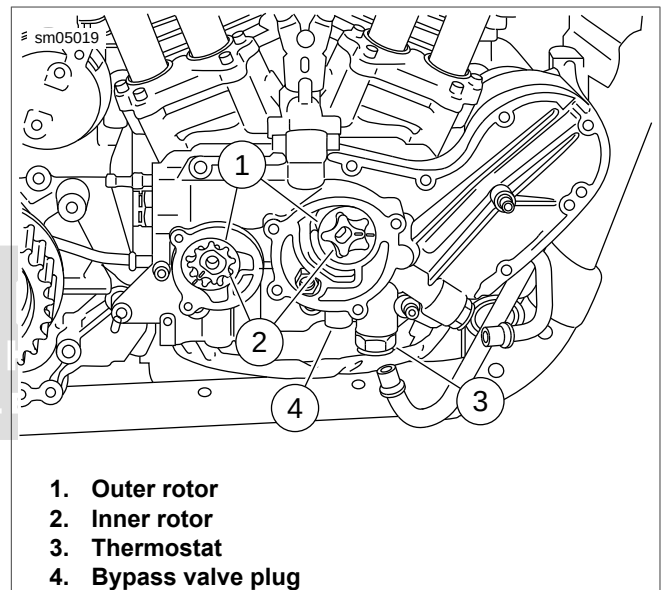

Figure 3-140. Oil Pump: XR 1200X
7. See Figure 3-140. Wipe the oil film from the exposed surfaces of the rotors (1, 2) and mark each rotor using a permanent marker to aid in reassembly.
3. See Figure 3-140. Install bypass valve components (4). Tighten plug to 108-156 **in-lbs** (12.2-17.6 Nm).
4. Install thermostat and oil cooler line fitting (3).